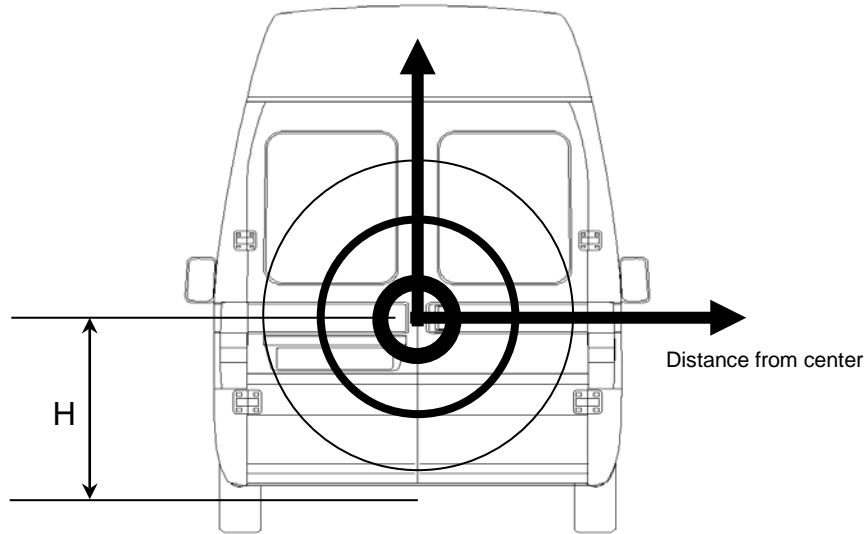

Fig.4
- The positioning of the body lock with respect to the lower edge of the door "H" must be maintained as to maximize both efficiency and optimize structural mounting points while naturally using **the center of the door** (see fig.4).